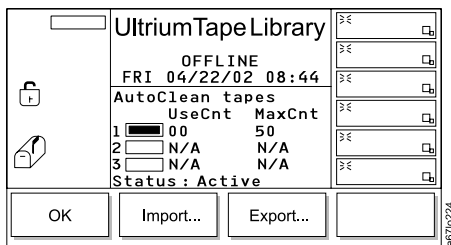

Figure 158. AutoClean Dialog
3. Press the button below the **AutoClean** softkey. The AutoClean Dialog displays (see Figure 158) with the following information about cleaning cartridges and cleaning slots in the library.